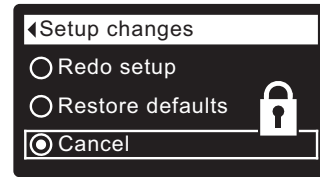

FIG. 35
8. Press the RIGHT (▶) button. A flashing padlock icon will appear, as shown in Figure 35.
- 1-7. Go to the **Setup changes** screen (Figure 35) by following Steps 1-7 at left.